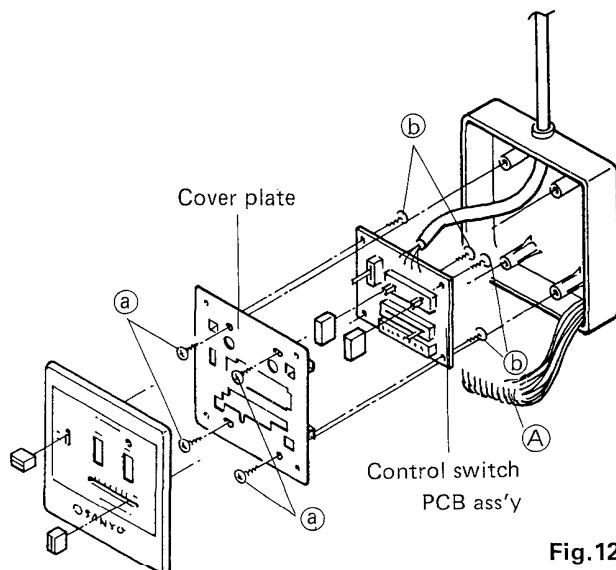

Fig. 12
- 4) For removal of the control switch PCB assembly, remove the connection of the lead wires (A) and remove the four screws (b). Fig. 12.